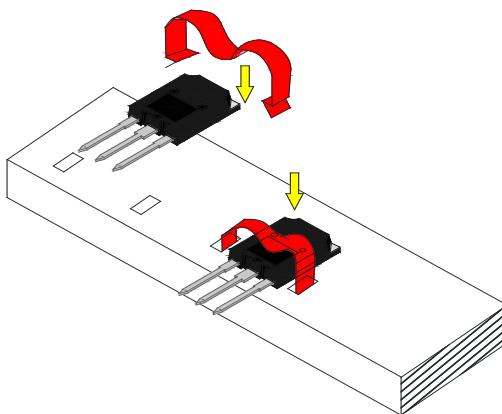

Fig. 15 Direct mounting with spring clip – A
- Punch a suitable hole on the heatsink, and mount the device on the heatsink with 15N~50N spring clip, as shown in Figure 15.